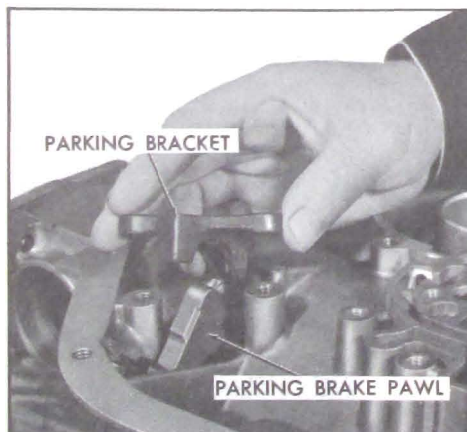

Figure 5-710
5. Install the parking brake bracket, guides over parking pawl, using two attaching bolts torque to 15-20 ft. lbs. See Figure 5-710.